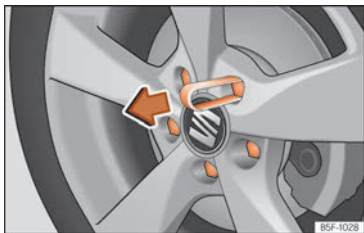

Fig. 68 Clip for removing the wheel bolt caps
- Fit the plastic clip (vehicle tools) over the cap until it clicks into place »» Fig. 68.